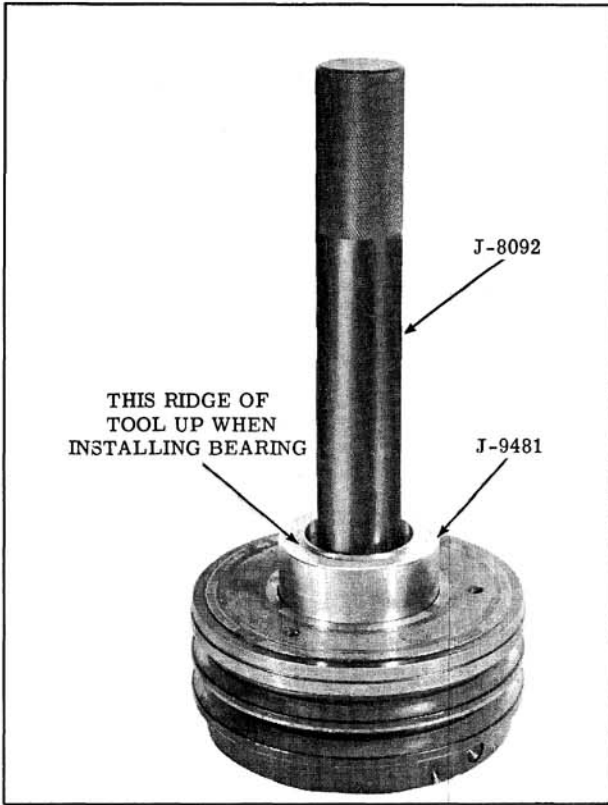

Fig. 14-89 Installing Pulley and Drive Plate Bearing
- c. Install new bearing as shown in Fig. 14-89 then install retaining ring.